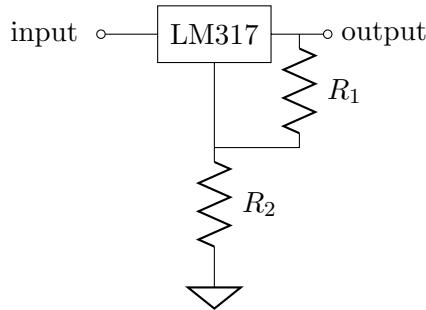

Figure 3: LM317 linear regulator circuit.
- b) For the circuit of Fig. 3, with sing an input voltage of 9V and  $R_1=510\Omega$ , what's the value of  $R_2$  such that the output voltage is 5 V? What is the efficiency of the regulator in this case? “LM317” refers to the Texas Instruments LM317 voltage regulator IC. You should be able to find its datasheet online.